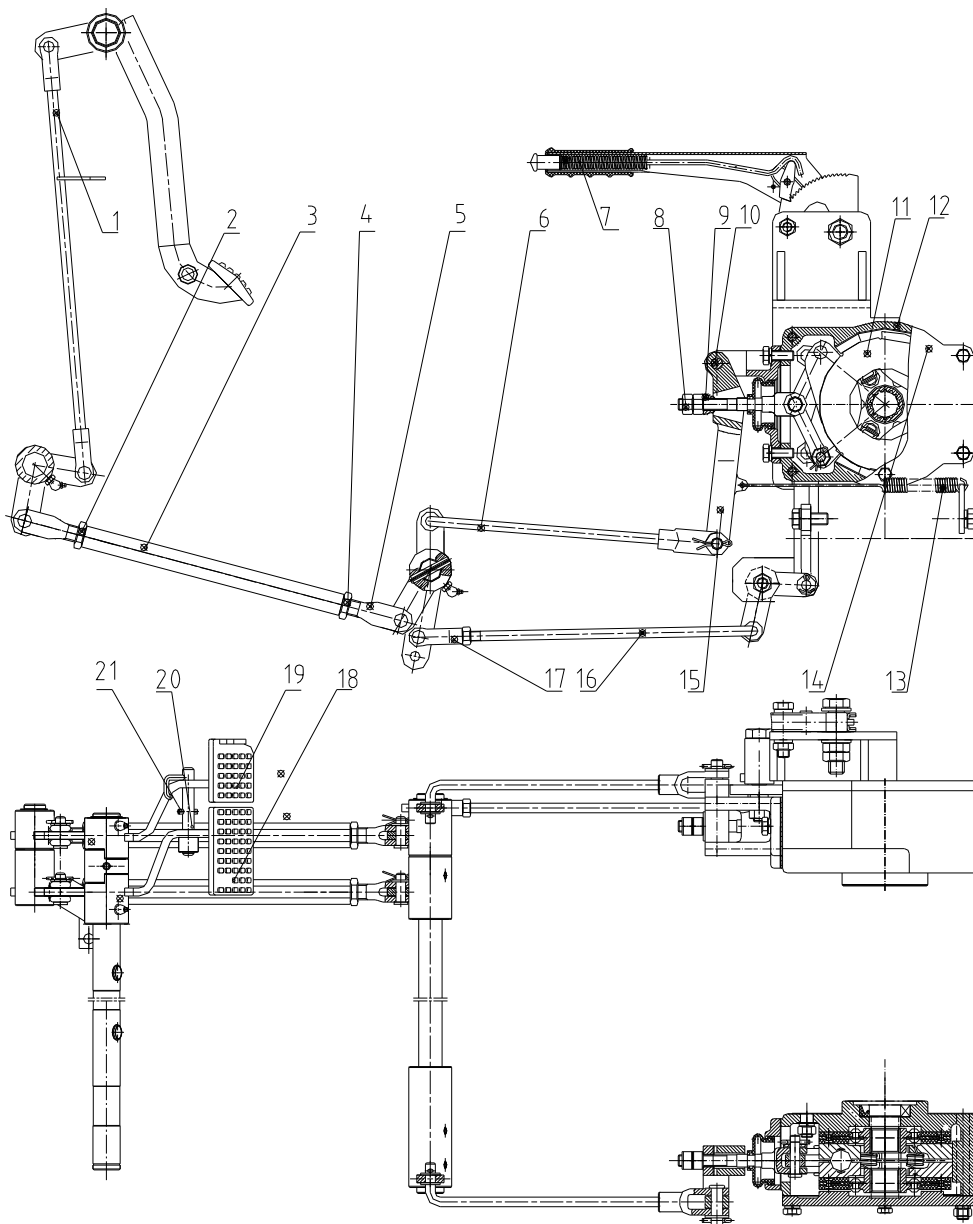

Fig. 10 Adjustment of disc brake
- c. The braking force of left side and right side pedals is different, which causes the brake bias. Fig. 10 shows the structure of disc brake that is consisted of the brake itself and the brake control mechanism. The adjusting methods ar as follows: